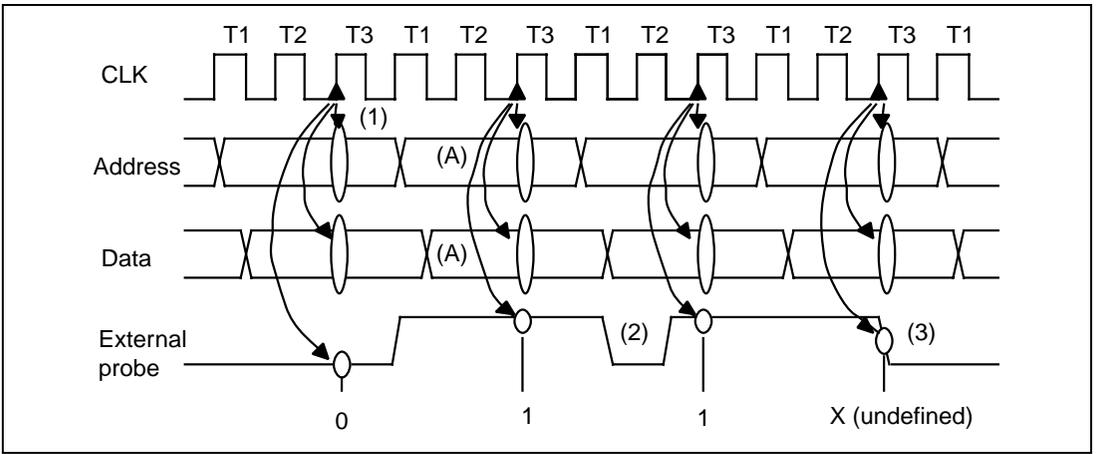

Figure 1.15 External Probe Signal Trace
In each bus cycle, the clock number is the number of clock (CLK) cycles between the end of the previous bus cycle and the end of the current bus cycle. Figure 1.15 shows an example of the external probe signal trace.
- Trace information is sampled at rising edges in the T3 cycles of CLK (figure 1.15 (1)).
- When the external probe signal changes between samplings, it cannot be reflected in the trace data (figure 1.15 (2)).
- When a sampling edge coincides with a change in the external probe signal, the trace contents are undefined (figure 1.15 (3)).
- Three clock cycles are traced in bus cycle (A).